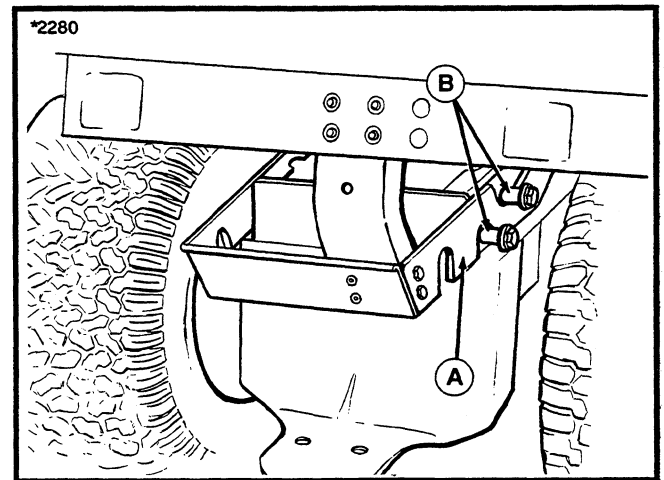

Figure 1.
1. Install grass bag and bracket assembly (A, figure 1) onto frame spacers (B) as shown in figure 1.